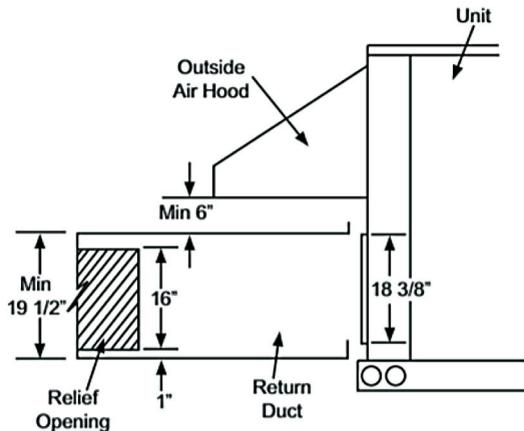

Fig. 34 — Relief Damper
1. Install the field provided horizontal ductwork onto the unit. Duct height must be at least $19 \frac{1}{2}$ inches high, however the duct can be no taller than the top of the relief opening in the bottom panel, or airflow into the outside air hood will be restricted. See Fig. 34.
2. Cut a 16 in. x 36 in. opening in the return duct for the relief damper (see Fig. 34).